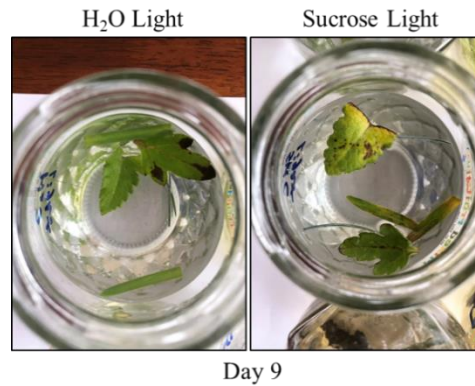

Figure 13. Detached leaves after 9 days' incubation under light in water or 6% sucrose solution.
2. Compare images and morphology of detached leaves in “**H₂O Light**” and “**Sucrose Light**”. Did supplementing water with 6% sucrose delay leaf senescence (e.g., leaf yellowing) under light? Use images you took yourself and leaf morphology you observed to support your answer (Exemplary images are shown in **Figure 13** below). Explain your observations.